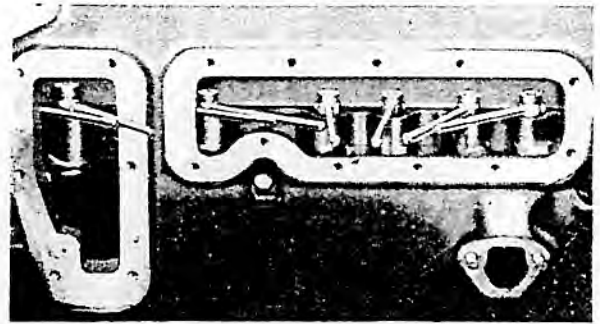

FIG. 132 RETAINING TAPPETS BY CLIPS MF140 WHILE CAMSHAFT IS REMOVED
12. Remove tappet cover assembly. To prevent the tappets dropping into the engine while the camshaft is taken out, fit clips MF140 over each tappet as shown in Fig. 132. On the front tappet the shorter leading edge of the clip should be towards the cylinder block.